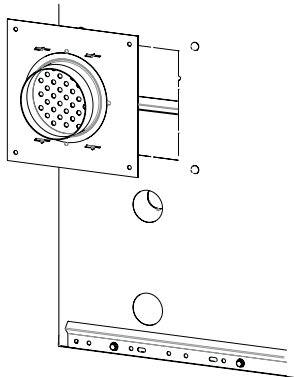
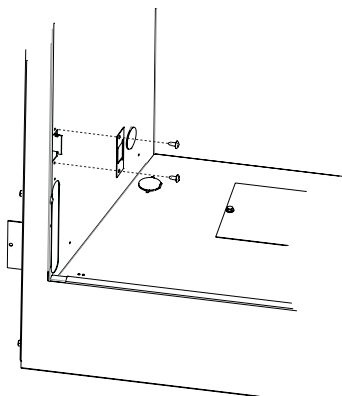

Figure 3
Figure 4
3. Insert Slide Assembly through the cut-out as shown in **Figure 3**. Before you fasten ensure that the handle penetrates the inner firebox wall. **See Figure 4**. Fasten the Slide Assembly with the four 10 x 1/2 Hex Head Screws provided.
4. Fasten the Handle Retainer to the firebox side with two 10 x 1/2 inch Phillips Truss Head Screws as shown in **Figure 4**.